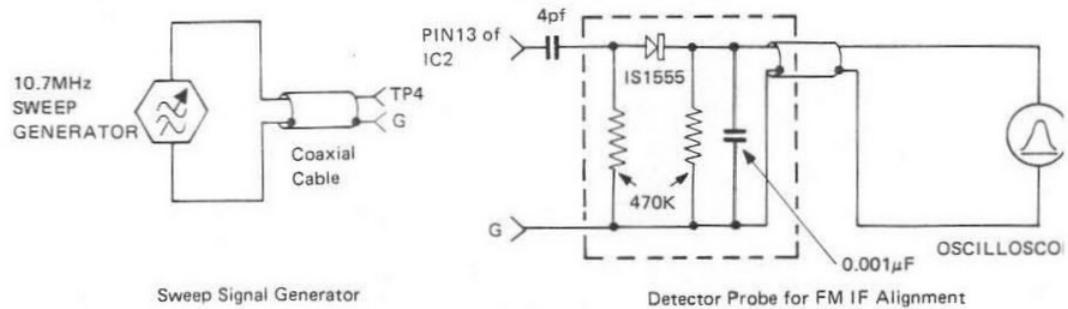

Figure 2.
1. Connect the test equipment to the RS 660 as shown in Figure 2, FM IF Alignment Test Setup.